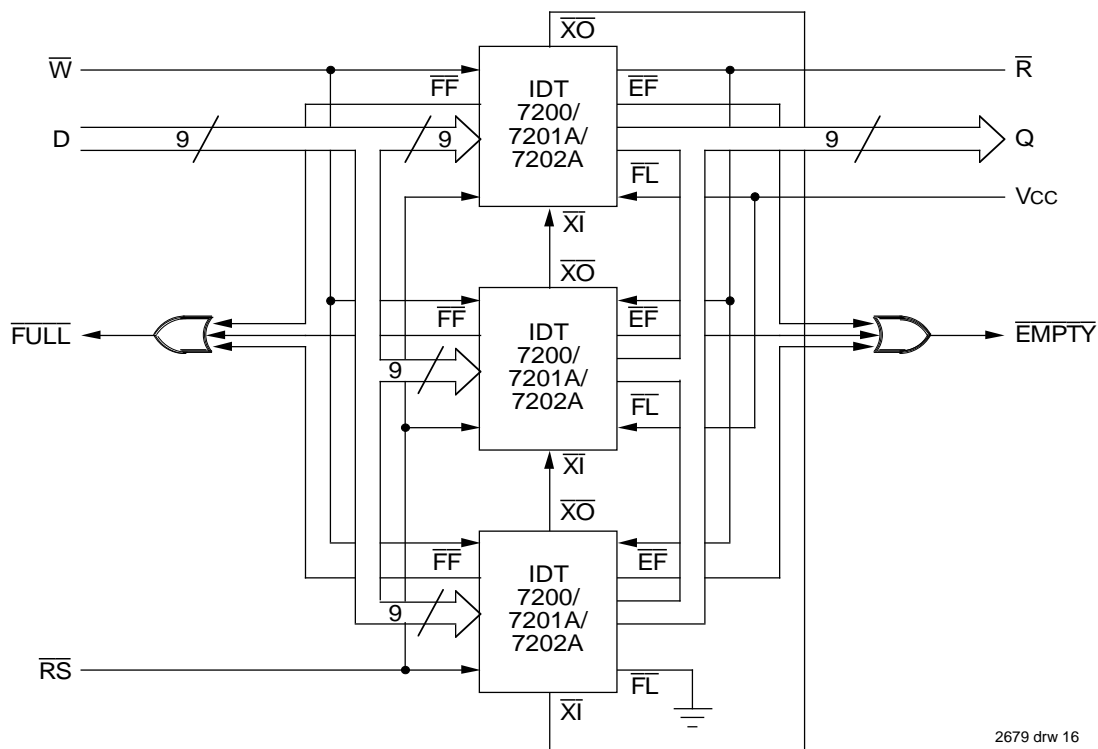

Figure 14. Block Diagram of 768 x 9/1536 x 9/3072 x 9 FIFO Memory (Depth Expansion)
The IDT7200/7201A/7202A can easily be adapted to applications when the requirements are for greater than 256/512/1024 words. Figure 14 demonstrates Depth Expansion using three IDT7200/7201A/7202As. Any depth can be attained by adding additional IDT7200/7201A/7202As. The IDT7200/7201A/7202A operates in the Depth Expansion mode when the following conditions are met:
3. The Expansion Out ( $\overline{XO}$ ) pin of each device must be tied to the Expansion In ( $\overline{XI}$ ) pin of the next device. See Figure 14.
4. External logic is needed to generate a composite Full Flag ( $\overline{FF}$ ) and Empty Flag ( $\overline{EF}$ ). This requires the ORing of all  $\overline{EF}$ s and ORing of all  $\overline{FF}$ s (i.e. all must be set to generate the correct composite  $\overline{FF}$  or  $\overline{EF}$ ). See Figure 14.
1.  $\overline{XI}$  is connected to  $\overline{XO}$  of previous device. See Figure 14.  $\overline{RS}$  = Reset Input,  $\overline{FL}/\overline{RT}$  = First Load/Retransmit,  $\overline{EF}$  = Empty Flag Output,  $\overline{FF}$  = Flag Full Output,  $\overline{XI}$  = Expansion Input,  $\overline{HF}$  = Half-Full Flag Output
1. For depth expansion block see section on Depth Expansion and Figure 14.